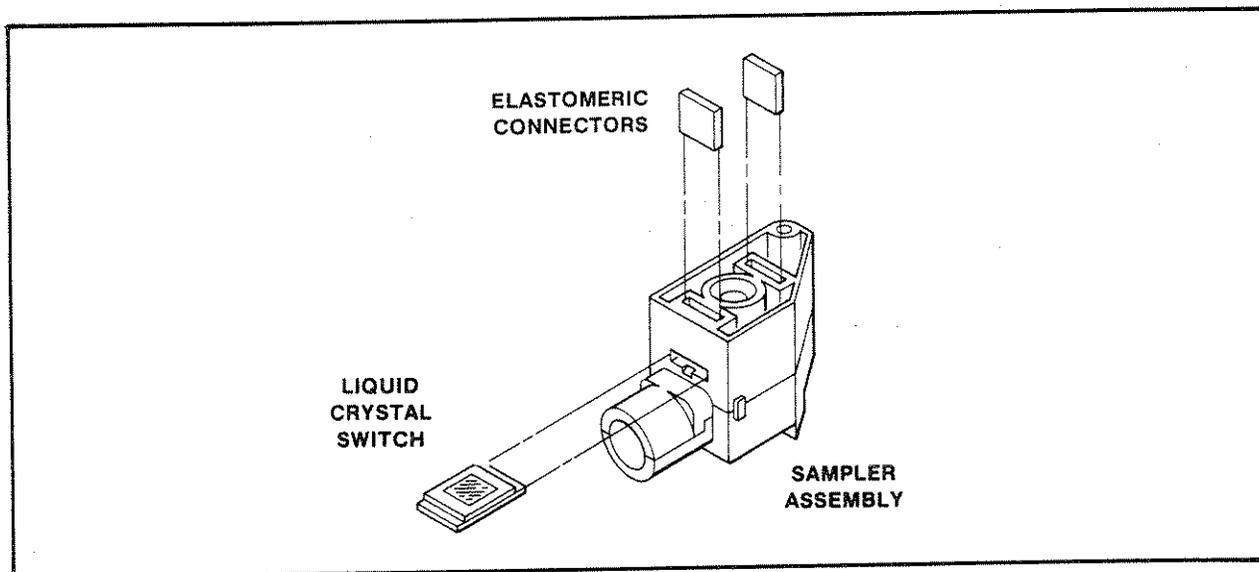

Figure 8-15. Liquid Crystal Removal
- a. Remove the liquid crystal from the sampler assembly as shown in *Figure 8-15* below: